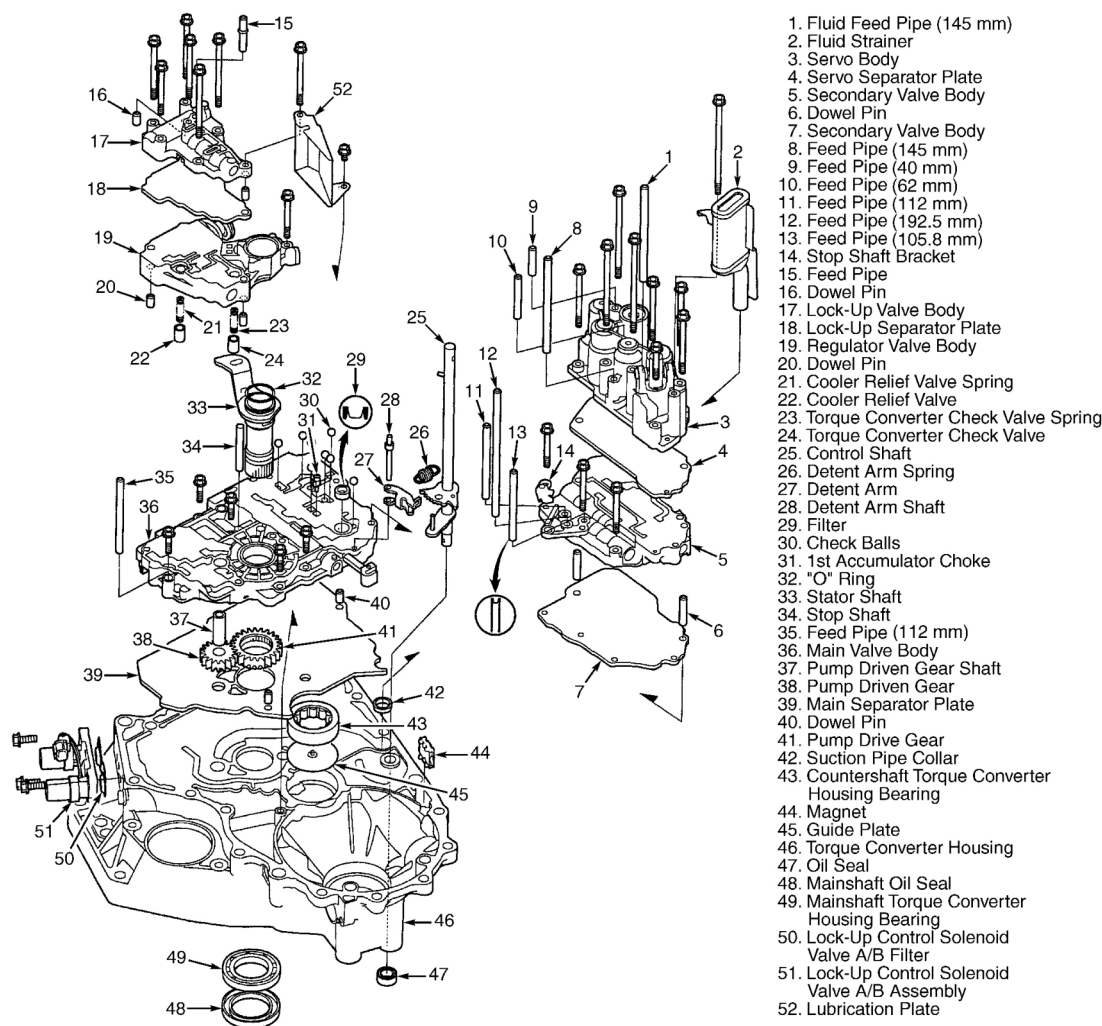

Fig. 12: Exploded View Of Torque Converter Housing & Components
9. Remove oil feed pipes from servo body, secondary valve body, lock-up valve body and main valve body. Remove fluid strainer. See **Fig. 12** . Remove servo body and separator plate. See **Fig. 12** . Remove secondary valve body with stop shaft bracket and separator plate.
11. Remove detent arm shaft and detent arm from main valve body. Remove bolts and main valve body. DO NOT lose check balls (8) in main valve body. See **Fig. 12**.
12. Remove oil pump driven gear shaft and oil pump gears. See **Fig. 12**. Remove separator plate for main valve body and dowel pins. Remove magnet. Remove lock-up control solenoid valve assembly (if necessary).